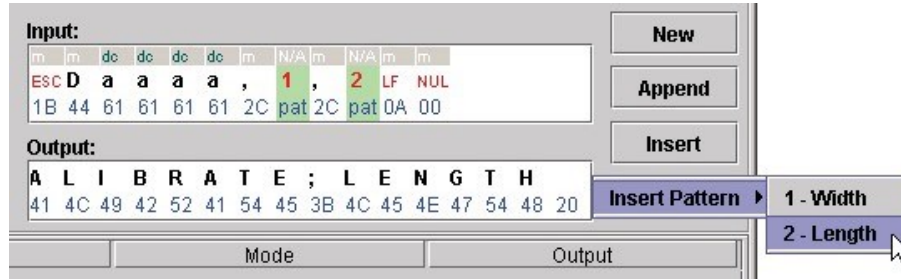

Figure 160 Entering the Output String
30. Right-click at the insertion point and select **Insert Pattern ► 2 - Length**. See Figure 160.